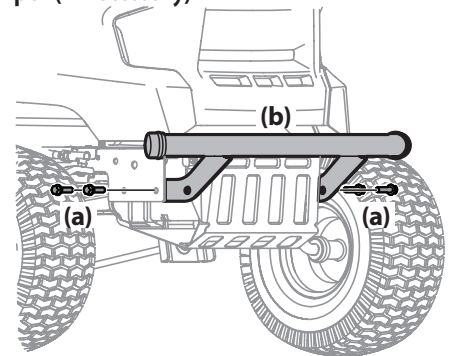

Figure 10
- Position the bumper brackets to the inside of the tractor's frame and secure it in place with the four hex screws (a). Torque to 332–405 in-lbs (37.5–45.75 N-m). See Figure 10.